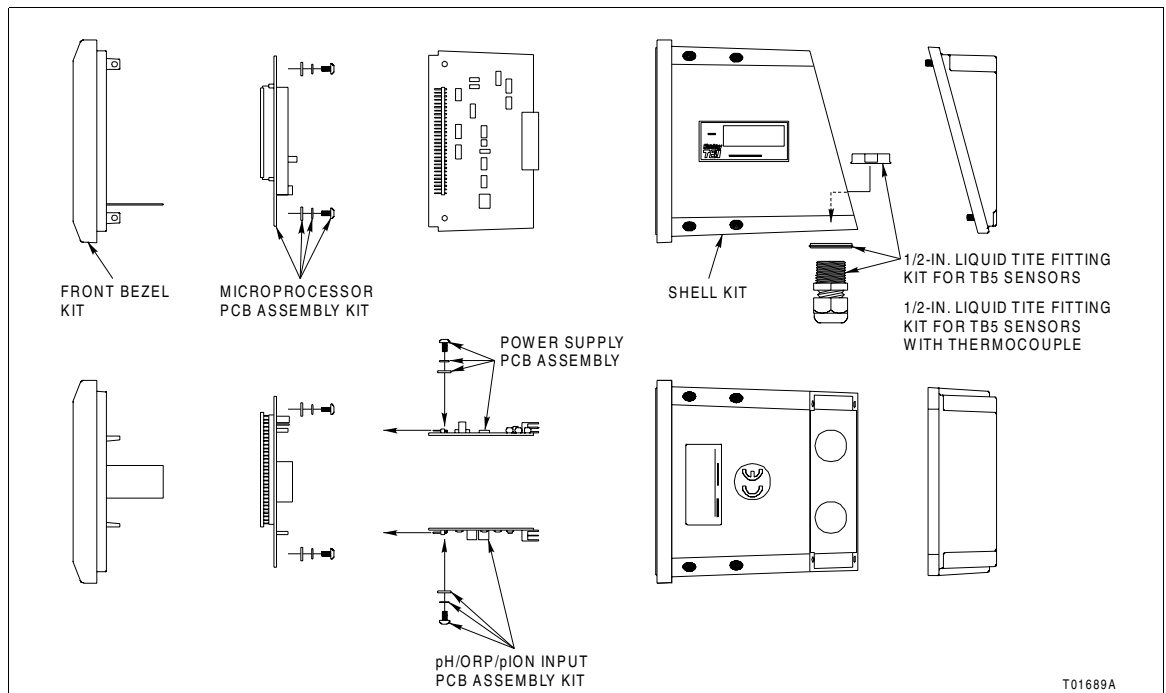

Figure PR59-1. Input PCB Removal
1. Use the Phillips head screwdriver to remove the two screws that retain the input PCB (Fig. PR59-1).